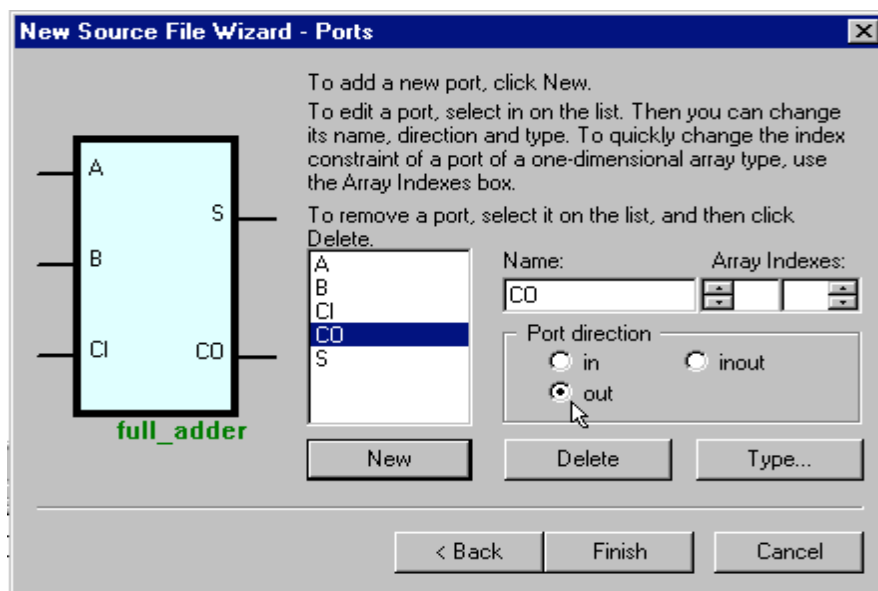

Figure 12
9. We will only be using 1-bit ports, so ignore the “Array Indexes” fields for now. Your screen should look like Figure 12. If so, then click the Finish button.